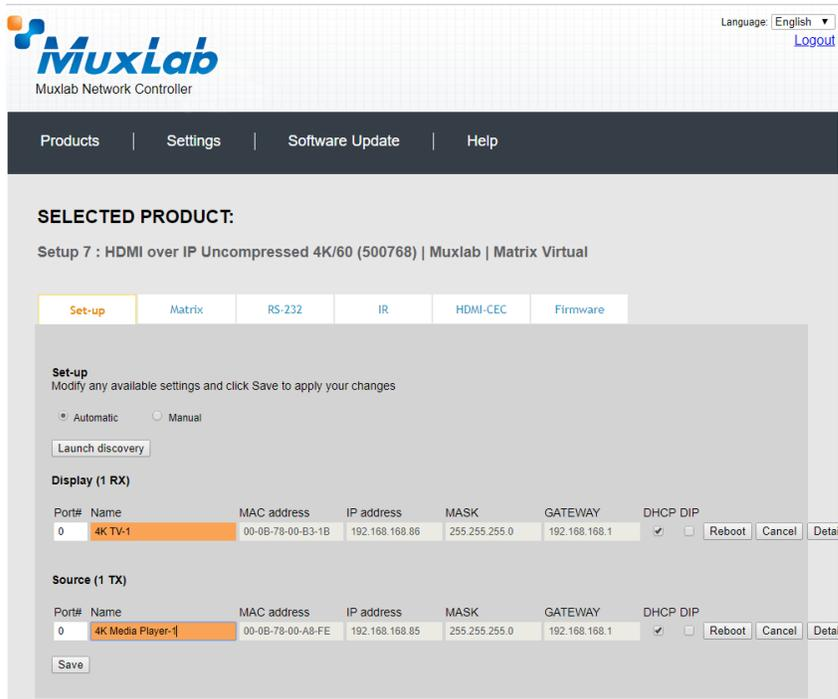

Figure 519: Name Editing
Each 500768 transmitter and receiver can be assigned an arbitrary descriptive name, normally reflecting the end device that it is terminated to. To change the name of any Display (RX) or Source (TX) device, click the **Name** field to edit its contents. Several **Name** fields can be edited before saving changes, as shown in Figure 519 (orange highlighted fields).